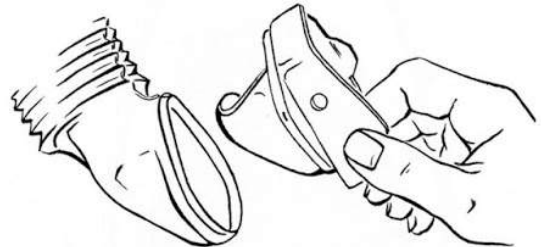

Fig. 1
- The tongue of the bag ring is inserted inside of the bellows and points toward the aluminum bag support tube. See Fig. 1. A groove in the end of the bellows fits into a matching lip on the bag ring.